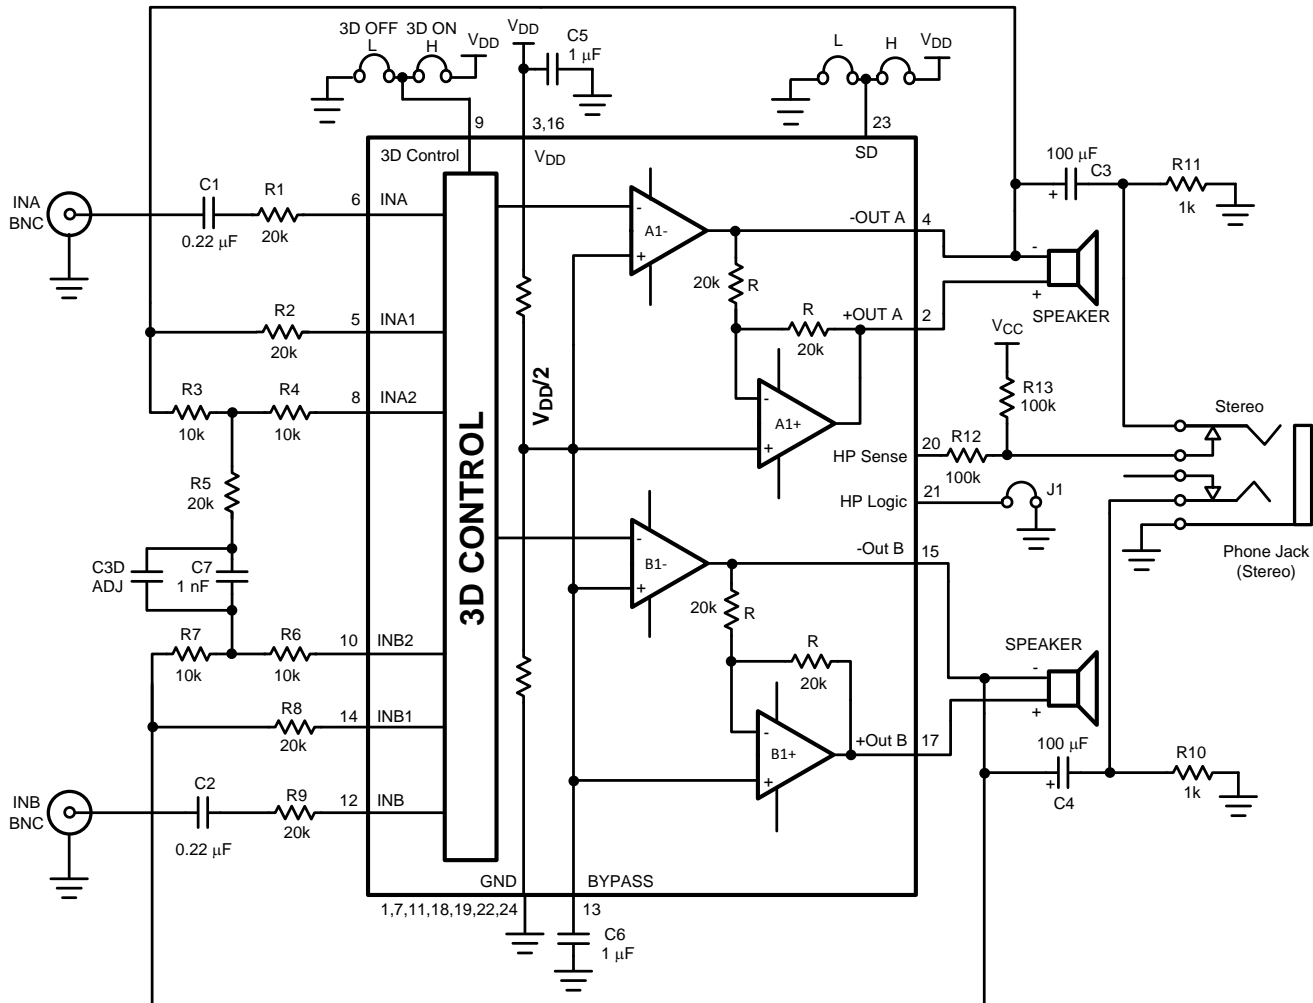

Figure 2. Typical Audio Amplifier Application Circuit
- (1) Absolute Maximum Ratings indicate limits beyond which damage to the device may occur. Operating Ratings indicate conditions for which the device is functional, but do not ensure specific performance limits. Electrical Characteristics state DC and AC electrical specifications under particular test conditions which ensure specific performance limits. This assumes that the device operates within the Operating Ratings. Specifications are not ensured for parameters where no limit is given. The typical value however, is a good indication of device performance.
- (2) All voltages are measured with respect to the ground (GND) pins, unless otherwise specified.
- (3) All measurements taken from Applications Diagram (see Figure 2).
- (4) Typicals are specified at $25^\circ C$ and represent the parametric norm.
- (5) Datasheet min/max specification limits are specified by design, test, or statistical analysis.
- (6) The quiescent power supply current depends on the offset voltage when a practical load is connected to the amplifier.
- (6) Output power is measured at the device terminals.
- (7) When driving 3Ω or 4Ω loads and operating on a 5V supply, the LM4888WQFN must be mounted to a circuit board that has a minimum of $2.5in^2$ of exposed, uninterrupted copper area connected to the WQFN package's exposed DAP.
- (4) Typical values are specified at $25^\circ C$ and represent the parametric norm.